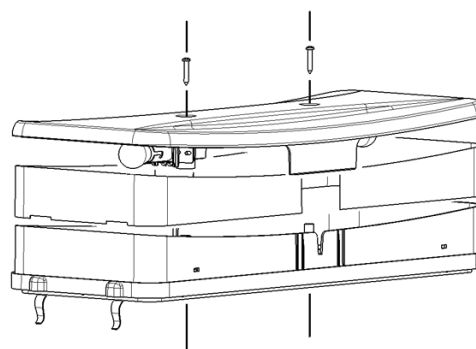

figure 10
- 1** Replacement of lighted top cover bulbs (see figure 10) :